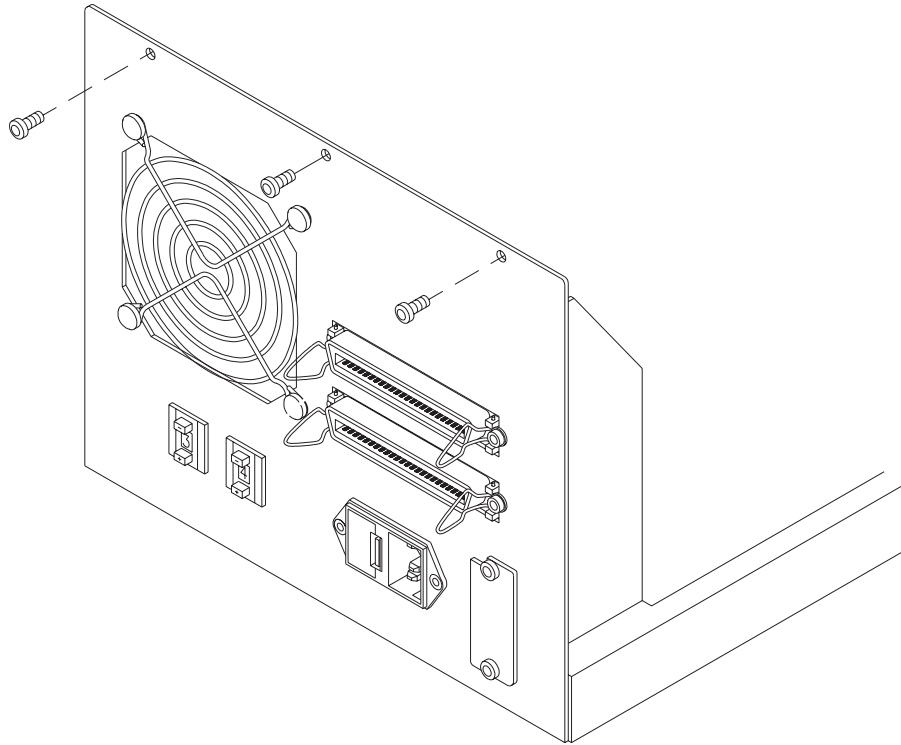

Figure 3-5 Cover screws at the back of the EXB-10i
1. Using a T-10 TORX driver bit, remove the three screws located on the back cover, as shown in Figure 3-5.
2. Using a T-10 TORX driver bit, replace the three screws on the back cover. Figure 3-5 shows the locations of these screws. Tighten each screw to 12 inch-pounds (13.8 kg-cm) of torque.